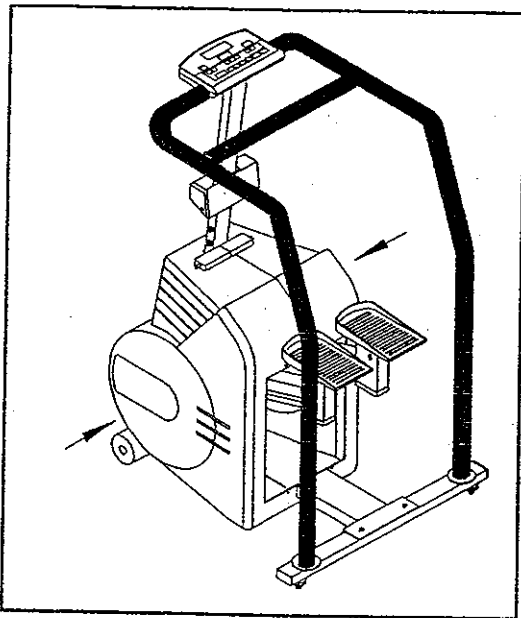

Fig.28
9. Replace the main shroud and tighten with screws (see Fig. 28 & 29).